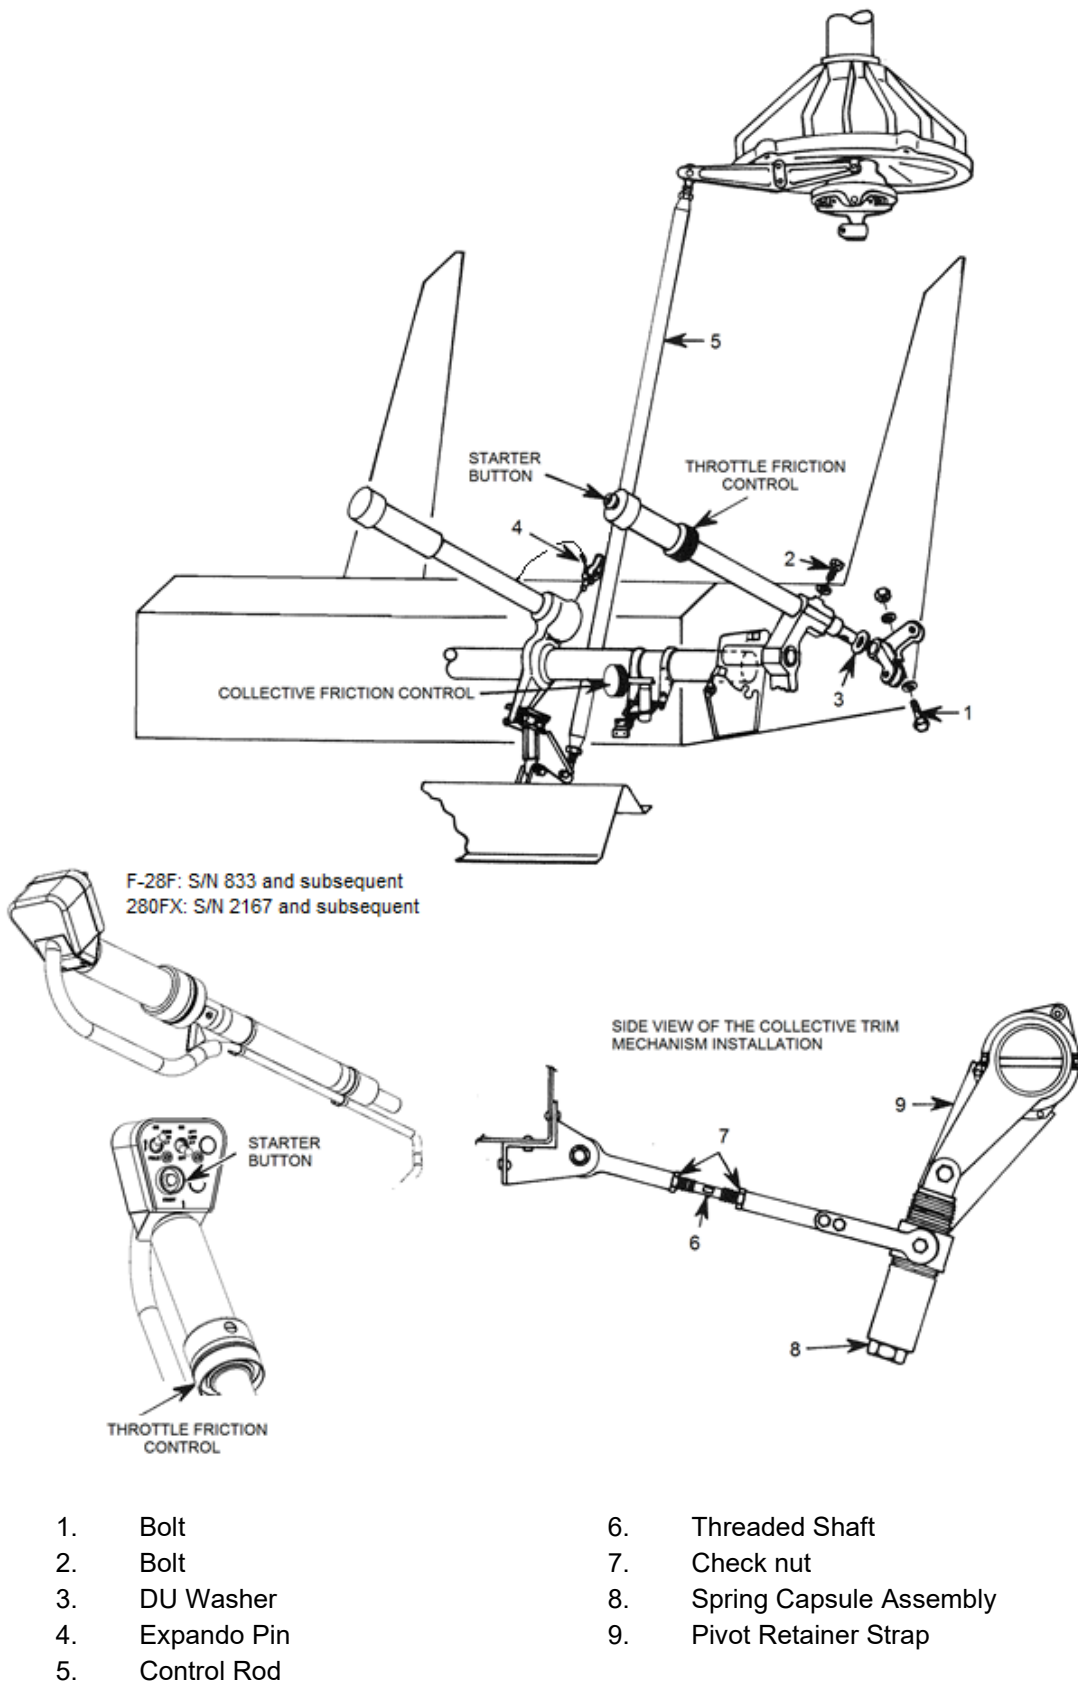

Figure 12-7. Collective Control System
The collective pitch control stick controls rate of climb when pulled upward by increasing the pitch of all three main rotor blades simultaneously and to the same degree. Downward movement of the collective stick decreases the pitch of the blades which decreases lift on the rotor and allows for a controlled descent. The collective pitch control stick is incorporated into the throttle correlator system. This mechanism combines the throttle motion with the collective stick movement such that the proper power inputs are automatically established as the collective stick is moved. The correlator is designed to keep the rotor/engine rpm within the desired green band for the majority of all flight regimes. Friction control is provided on the throttle grip of the collective stick. See Figure 12-7 for locations of the friction control points.
B. Removal – Pilot Collective (Figure 12-7)
- (1) Remove the fiberglass cowl over the collective stick.
- (2) Disconnect the electrical wiring, as applicable.
- (3) Remove bolt (1) connecting the throttle bellcrank to the collective stick
- (10) Install washers (2) and nuts (1) and torque (12-15 in-lb/1.4-1.7 Nm). Ensure straps (4) rotate on the capsule pivot (3).
- (11) Install bolts (5) with washers (6) through brackets (4) and link (23). Adjustment of shaft (22) may be required to align bolt holes for the brackets. Install nuts (7) and torque (12-15 in-lb/1.4-1.7 Nm).
- (12) Cut safety wire and remove tool T-0022.
E. Collective Trim – Rigging (Figure 12-7)